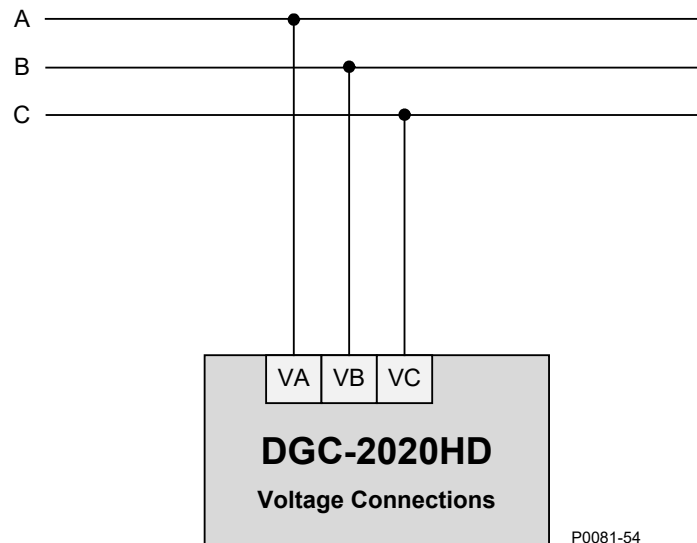

Figure 4-3. 3-Phase Delta Connections
- Three-phase delta Figure 4-3
Figure 4-3 illustrates typical three-phase delta connections for all DGC-2020HD bus voltage sensing connections: Generator, Bus 1, and Bus 2. Use the terminal numbers listed below for connecting the desired bus type. Refer to the *Terminals and Connectors* chapter for rear panel terminal numbering.